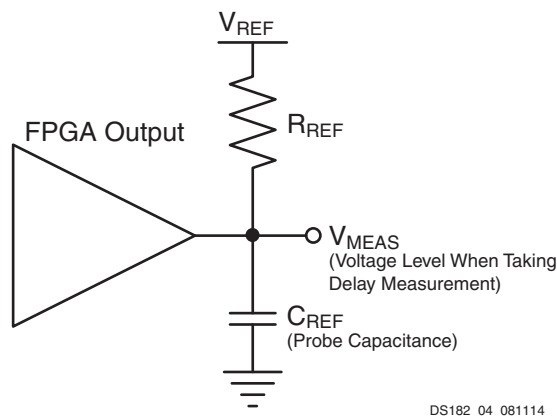
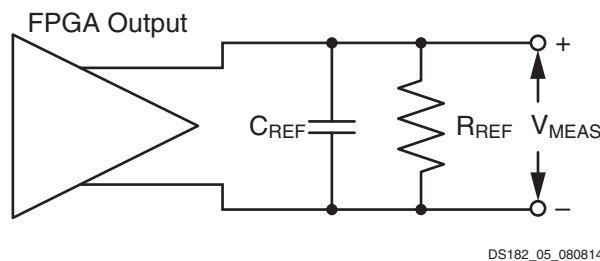

Figure 1: Single-Ended Test Setup
Figure 2: Differential Test Setup
- This is an input voltage reference that bears no relation to the V_{REF} / V_{MEAS} parameters found in IBIS models and/or noted in Figure 1.
Output delays are measured with short output traces. Standard termination was used for all testing. The propagation delay of the trace is characterized separately and subtracted from the final measurement, and is therefore not included in the generalized test setups shown in Figure 1 and Figure 2.